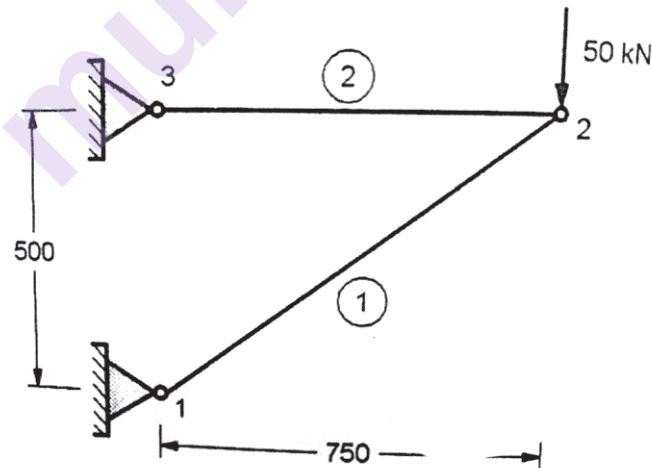

Figure 2
- Q4) a) For the two-bar truss shown in Figure 2 below. All the elements have  $E = 200 \text{ GPa}$  and  $A = 1000 \text{ mm}^2$ . Point 1 and 3 are fixed. [6]